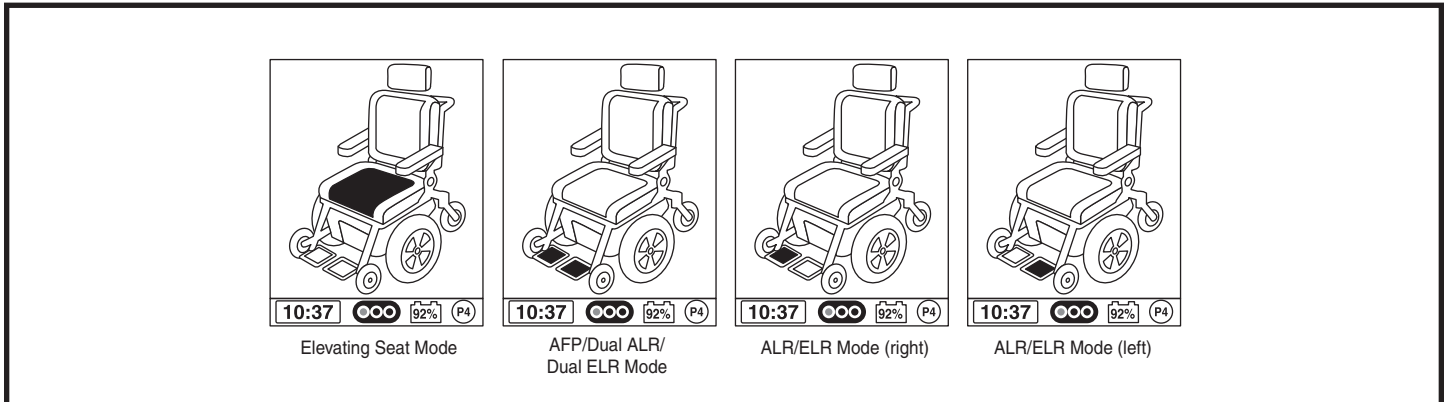

Figure 12. Actuator Mode (Q-Logic)
3. Push the joystick to the left or right to cycle through the available actuators until the desired actuators are illuminated on the actuator indicator. **See figure 12.**